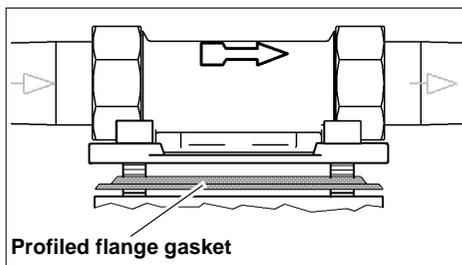

Fig. 8: Built-in rotary flange
To do this, after its installation the water filter is filled with water by the opening of the spigot. It must be flushed till the running water is clear (see Fig.8).
- 6 Remove and replace the used profiled flange gasket. The section of the profiled flange gasket must point towards the built-in rotary flange. Failure to observe this can lead to leaks and water escaping. This can in turn cause water damage to the house and its installations (see Fig.8).